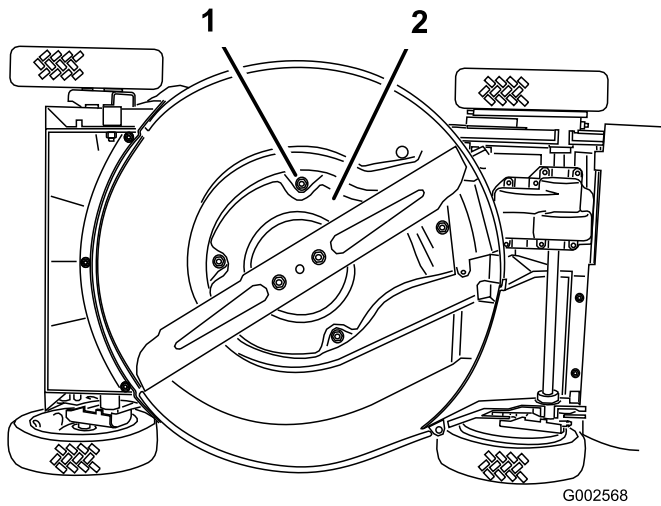

Figure 39
6. Remove the 4 screws that hold the shield in place (Figure 39)..